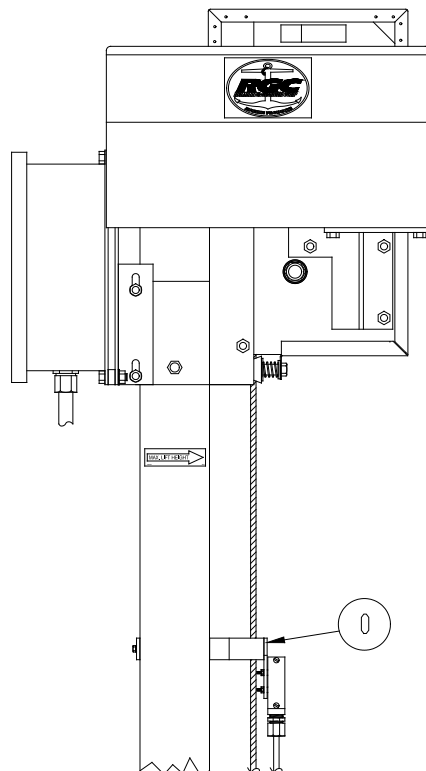

Figure 2-7
3. Refer to Figure 2-7. Attach limit switch bracket assembly onto vertical leg A, approximately 10 inches below “Maximum Lift Height” decal. Fasten securely.